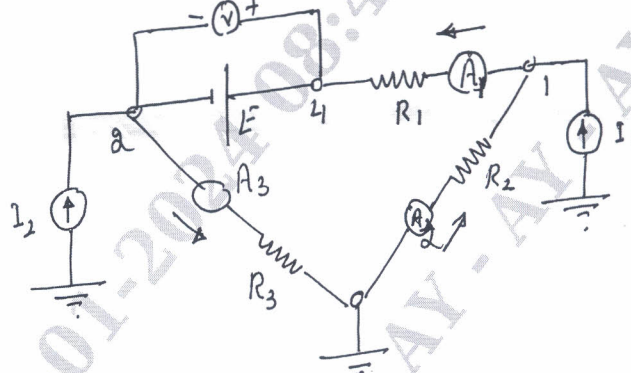

Fig.Q10(b)
b. For the Fig.Q10(b) shown estimate the state of the system given by nodal voltage V_1 and V_2 and the voltage ε across the voltage source.